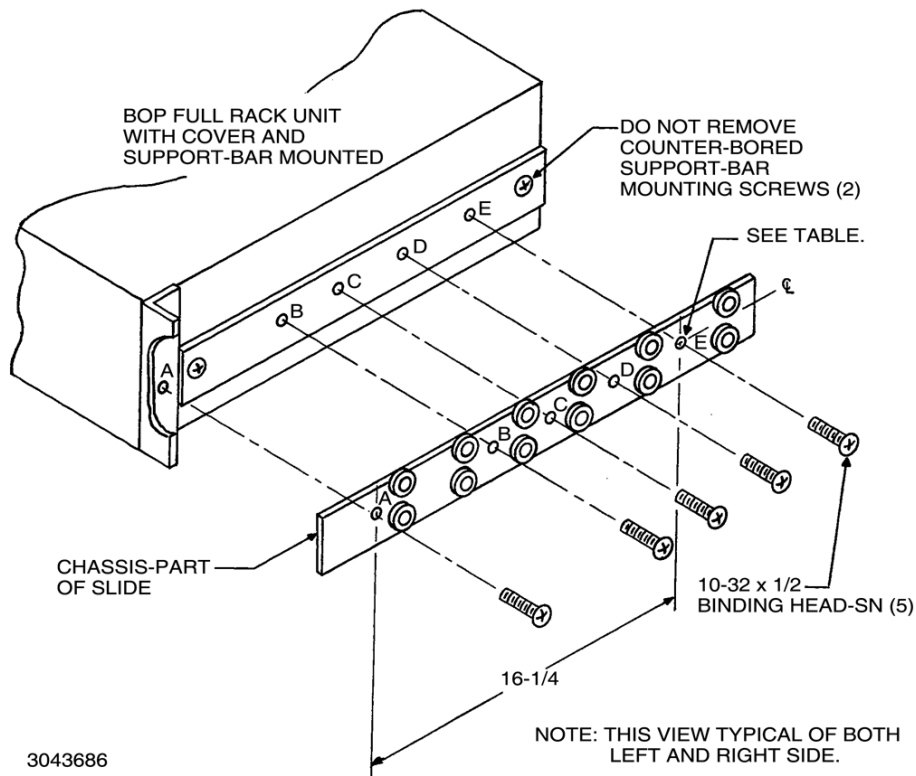

FIGURE 2-4. SLIDE INSTALLATION ON BOP 2X UNITS
To install the slides, refer to Figure 2-4 and proceed as follows:
4. Mount the chassis section of the slide to the left and right side of the BOP 2X as shown in Figure 2-4. Use the same 10-32 x 1/2" mounting screws removed in step 1.